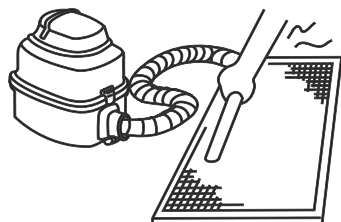

Fig.6-2
- The air-in side should face up when using vacuum cleaner. (Refer to Fig.6-2)